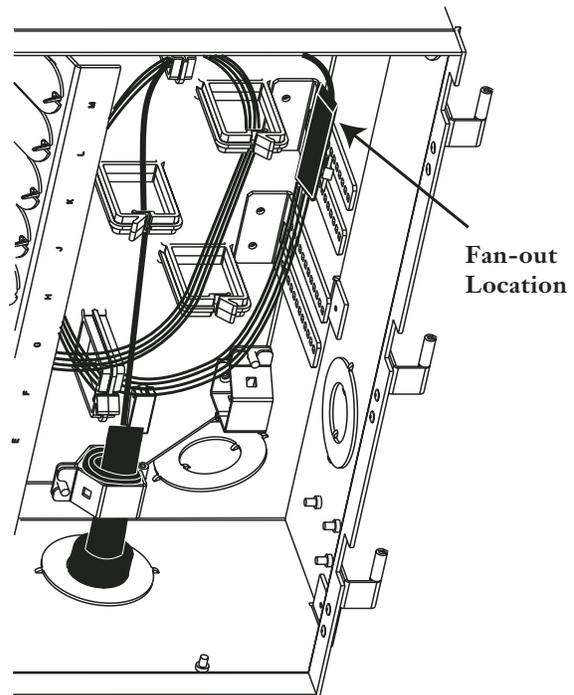

Figure 11
**10.5** Secure the fan-out bodies to the bracket as shown (Figure 11).